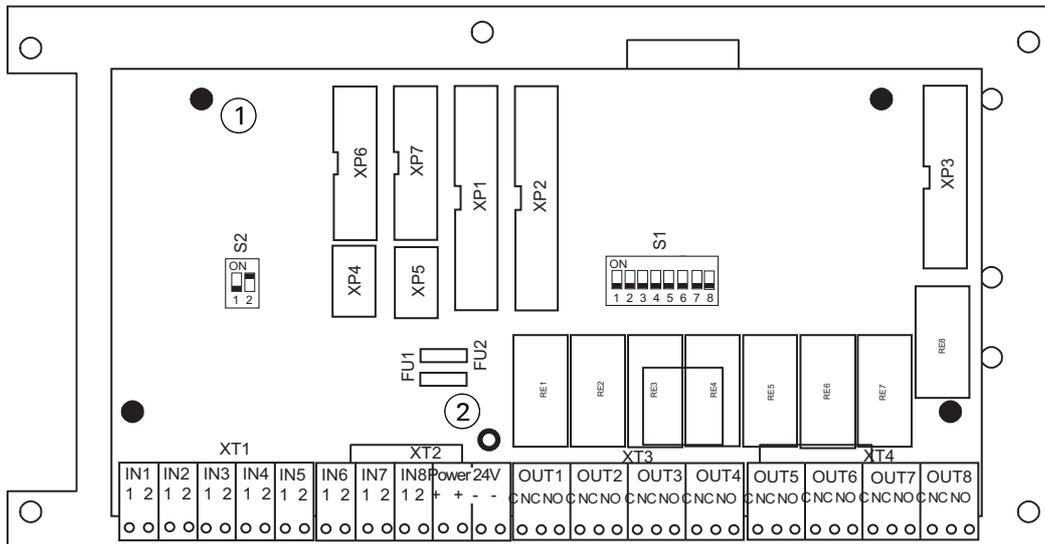

Fig. 21: IOB800 on Ancillary Mounting Plate
- 1 pillars. Fit the pillars in the locations shown as item 1 in Fig. 21.